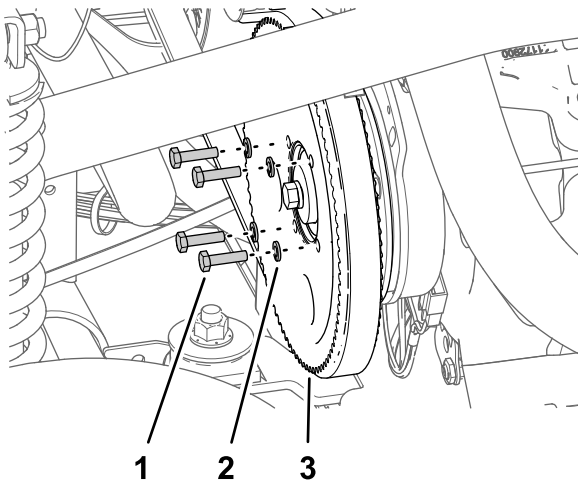

Figure 225
3. Remove the 4 bolts (1/4 x 1 inch) and 4 lock washers (1/4 inch) that secure the pulley to the sprayer pump (Figure 225).